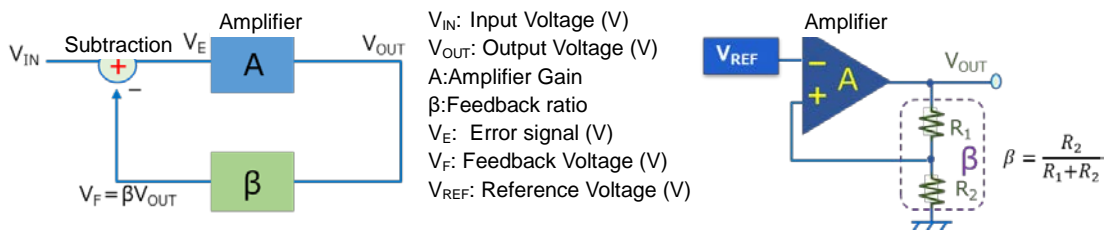
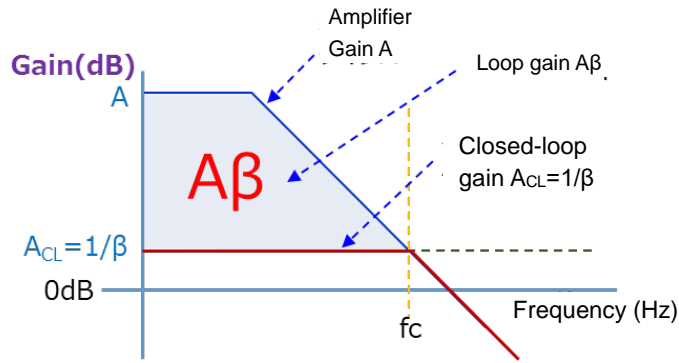
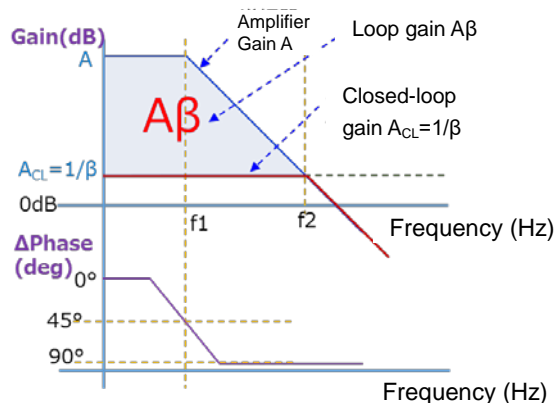

Figure 3.1.1 Concept of negative feedback and a simplified diagram of an LDO
Figure 3.1.2 Relationship of the gain (A) of the amplifier in a negative feedback system and its closed-loop gain (A_{CL})
Figure 4.1.1 Frequency response of a negative feedback system with an amplifier having a first-
Figure 3.1.1 shows the concept of negative feedback and a simplified diagram of an LDO that uses negative feedback.
As shown in Figure 3.1.1, negative feedback is a circuit system that returns the output (V_{OUT}) to the input with a feedback ratio β and subtracts it from the input V_{IN} . Therefore, the voltage of the error signal applied to an amplifier is lower than V_{IN} .
Suppose that the amplifier shown in Figure 3.1.1 has a large gain (A). Then, the closed-loop gain (A_{CL}) of a negative feedback system can be approximated as follows:
This equation indicates that if the amplifier has a large gain (A), the closed-loop gain (A_{CL}) is determined only by feedback ratio β independently of the internal amplifier. In the case of the negative feedback system shown in Figure 3.1.1, the feedback ratio (β) is determined only by the ratio of the values of R_1 and R_2 , i.e., passive resistors. In this case, changes in the gain (A) of the amplifier have no effect on the feedback factor, making it possible to stabilize the gain. However, the gain (A) of the amplifier in a negative feedback system is normally dependent on frequency. For example, if it has a first-order characteristic, its frequency response looks like Figure 3.1.2. ($1/\beta$ shown in this figure represents the closed-loop gain (A_{CL}) of the negative feedback system.) In this case, because the gain (A) of the amplifier decreases with frequency as shown in Figure 3.1.2, the closed-loop gain (A_{CL}) becomes less stable as frequency increases. At a frequency of f_c , the closed-loop gain (A_{CL}) is equal to the gain of the amplifier.
From Figure 3.1.2, it can be seen that the loop gain ($A\beta$) is equal to the difference between the amplifier's gain (A) and the closed-loop gain ($A_{CL} = 1/\beta$), i.e., the area surrounded by the amplifier's gain (A) and the closed-loop gain ($1/\beta$).
In the discussion of Figure 3.1.2, we assumed that the loop gain ($A\beta$) of the amplifier in the negative feedback system has a first-order characteristic in the frequency range in which $A\beta > 0$ dB (i.e., $A\beta$ is greater than 1). Figure 4.1.1 shows the frequency response of such a negative feedback system, including a phase plot.